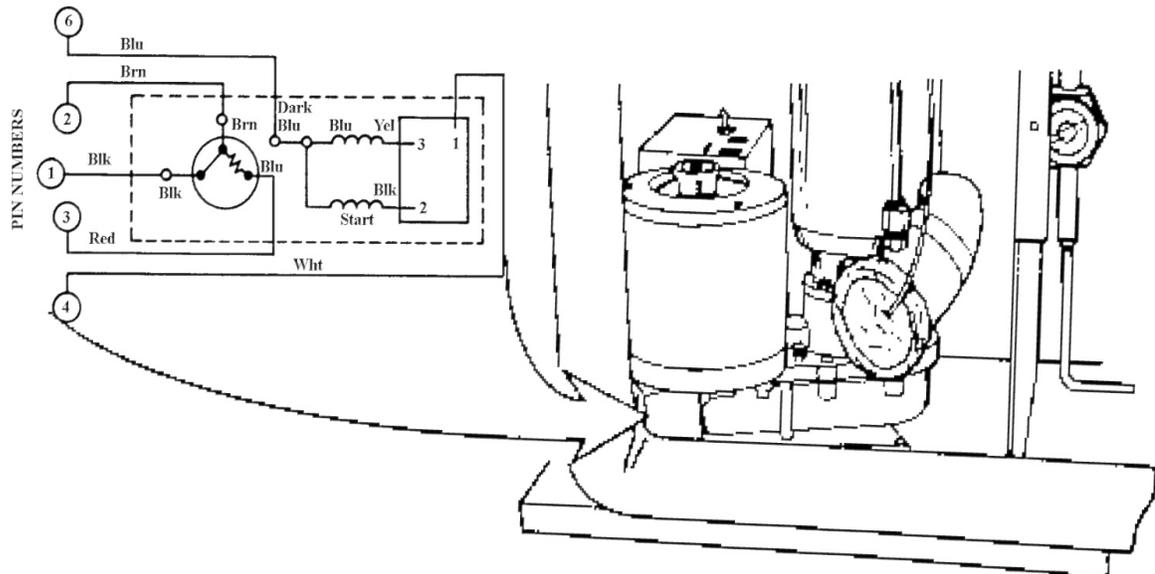

Figure 7. Gearmotor Assembly
1. The resistance readings on the winding will be between 5 to 25 ohms. A meter capable of these low readings must be used. The start relay cover must be removed. (See Figure 7).